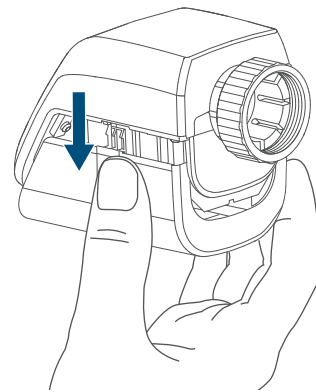

Figure 2
- Press and hold down the system button of the radiator thermostat (D) for at least 4 seconds to activate the pairing mode (see figure 2). The device LED (D) starts to flash orange. Pairing mode remains activated for 3 minutes.
- Press and hold down the system button of the window / door contact with magnet (L) for at least 4 seconds to activate the pairing mode. The device LED (L) starts to flash orange.
- Open the battery compartment (**B**) by pulling the battery compartment down (see „Figure 2“ on page 27).